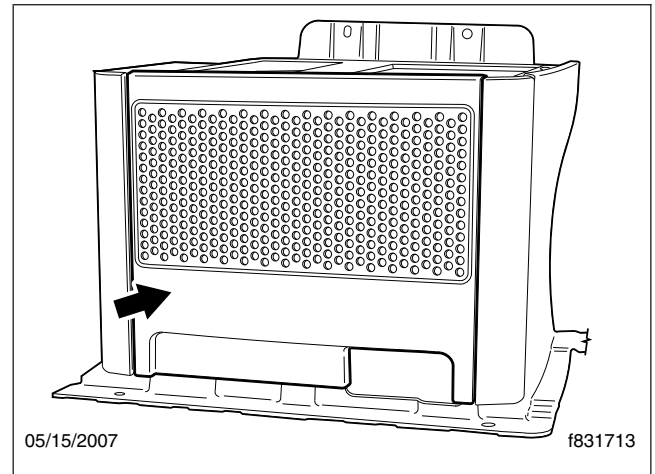

Fig. 5, Sleeper HVAC Access Panel, 60- and 72-inch Sleepers
2. In vehicles with 60-inch and 72-inch sleepers, remove the sleeper HVAC access panel on the inboard side of the cabinet. See Fig. 5. The panel is held in place with four spring clips. Pull straight out to remove it.
2. Remove the sleeper HVAC access panel on the inboard side of the cabinet. See Fig. 5. The panel is held in place with four spring clips. Pull straight out to remove it.